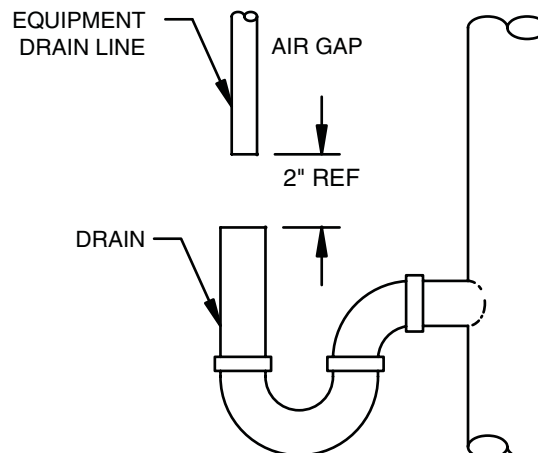

Figure 6: DRAIN
- d) Repeat steps (a) through (c) until proper setting is obtained. The optimum cycle time is 60 seconds or more, with an air draw of 20 seconds minimum. Position DRAIN LINE over drain and secure firmly. To prevent back-siphoning of sewer water, provide an air gap of at least 2 inches or 2 pipe diameters between end of drain hose and drain (Figure 6). Do not raise DRAIN LINE more than 10 ft. above floor.
Position the DRAIN LINE over the waste drain pipe and secure firmly. To prevent back siphoning of sewer water or grey water, provide an air gap of at least two inches or 2 times the pipe diameters between the end of drain line tubing and waste drain (Figure 6). Do not raise the DRAIN LINE more than 10 feet above the floor. Check with local code officials to ensure you conform to local, state and national plumbing codes.